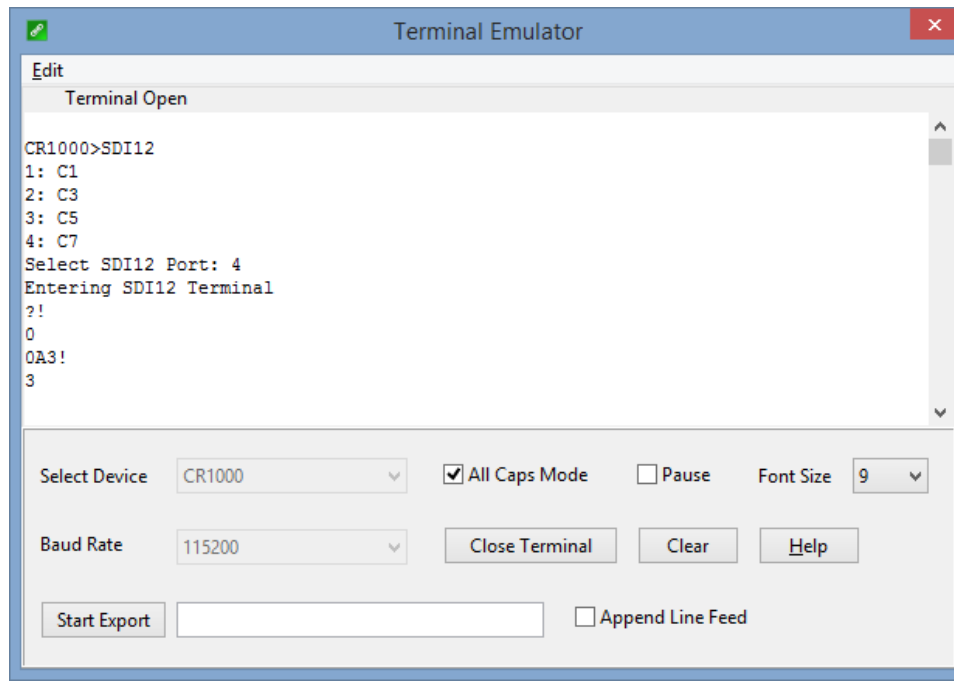

FIGURE B-1. CR1000 example of using the SDI-12 transparent mode to change the SDI-12 address from 0 to 3. Sensor is connected to control port 1.
10. To change the SDI-12 address, type **aAb!**, where **a** is the current address from the previous step and **b** is the new address (see FIGURE B-1 (p. 26)). Press **Enter**. The sensor changes its address and responds with the new address.